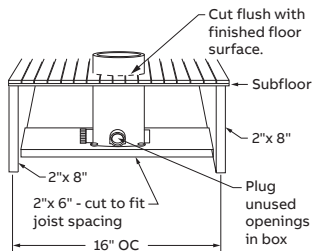

Figure 1 **WOOD JOIST CONSTRUCTION**
4. Cut wooden 2" x 6" support to fit between joist spacing. Refer to Figure 1 or Figure 2.